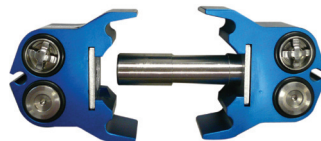

Figure 6
7. Lightly grease the plunger with the clear grease provided in small grey tube. Slide plunger into one head assembly and then slide the other head onto plunger. Place head and plunger assembly on work surface with valves facing upward. Figure 6 shows plunger in one head assembly with other head in position above plunger.